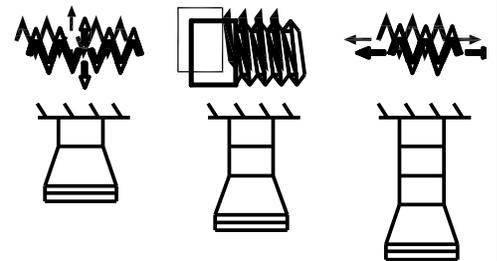
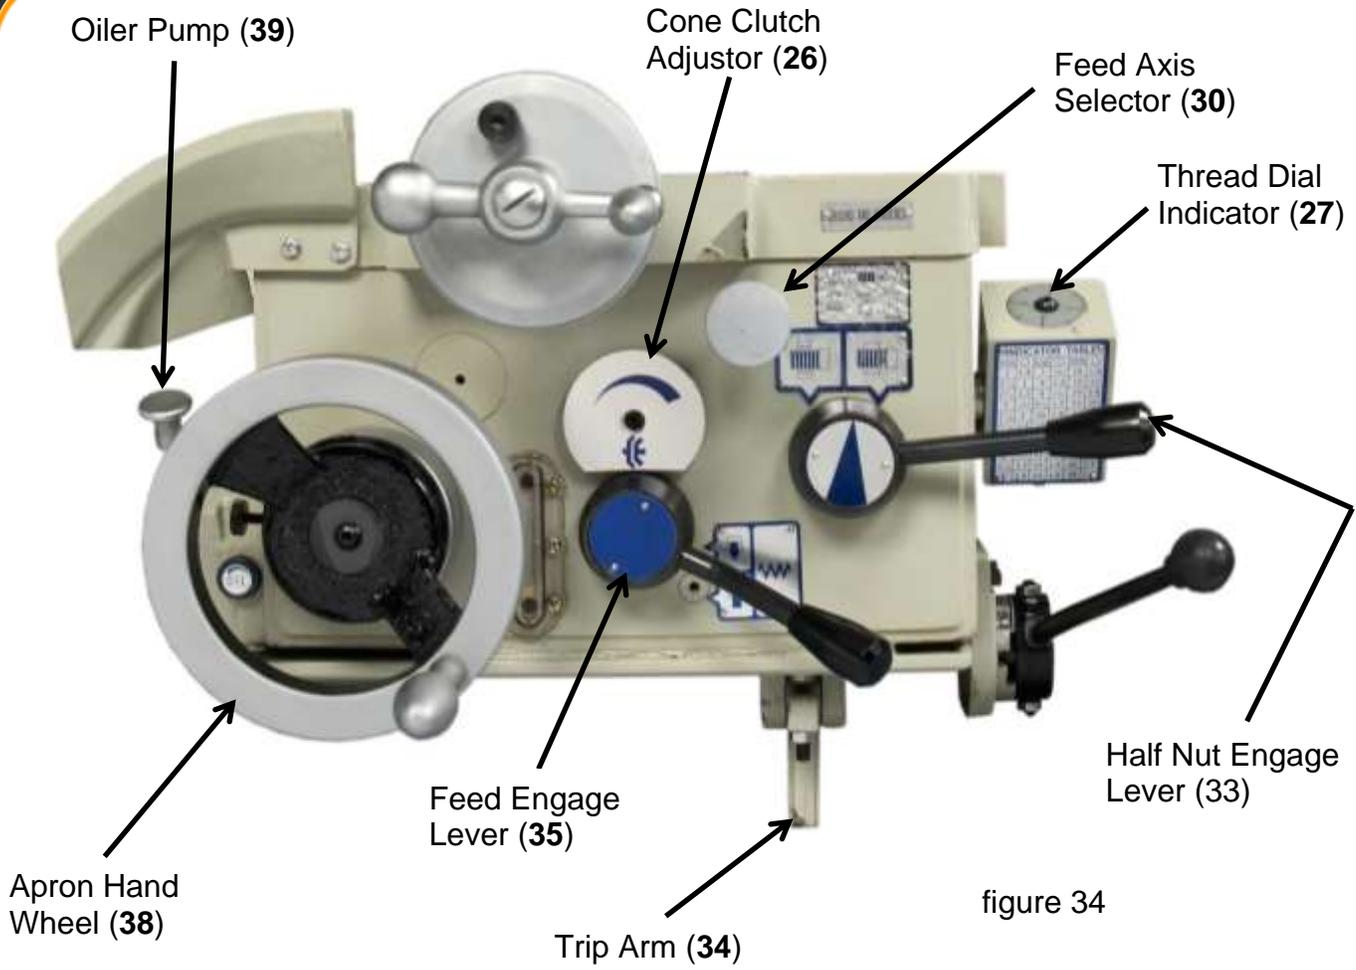

figure 33
figure 34
Feeds – power: Either longitudinal or cross travel are selected by positioning the feed axis selector (30) "IN" (on the first line) for cross feed or "OUT" (on the third line) for longitudinal feed. (fig. 33) To engage the feed; (once direction has been established) push feed engage lever (36) downward until fully engaged (fig. 34). To dis-engage, lift feed engage lever (35).
2. Determine the direction of feed using the feed direction selection knob (12) located at the headstock.
3. Pull feed axis selector (30) to the “OUT” position (the third line) for longitudinal power feed (fig. 33).
4. Engage feed: Move feed engage handle (35) to the “DOWN” position.
5. To stop: Raise feed engage lever (35) to the disengaged “UP” position.
3. Push feed axis selector (30) to the “IN” position (the first line) (fig. 33).